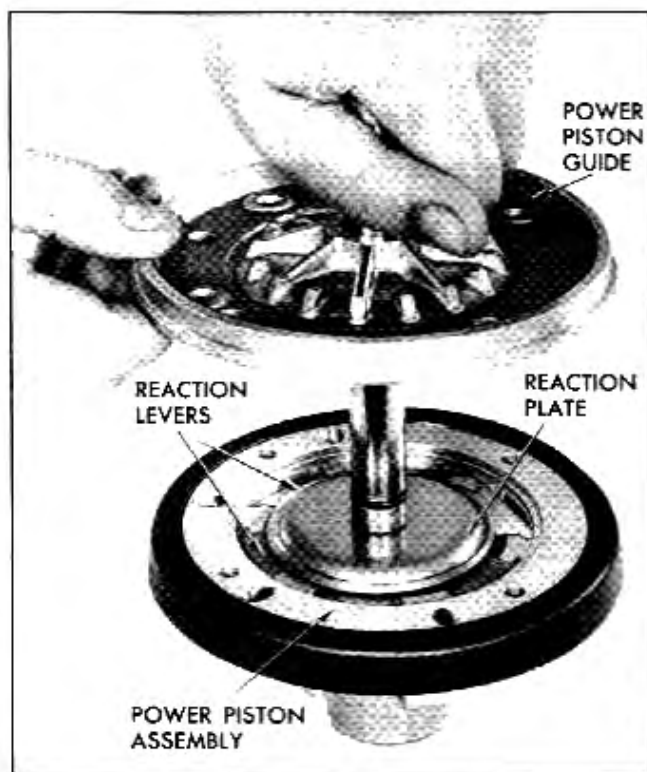

Fig. 5-68 Replacing Piston Guide to Power Piston Assembly
1. Holding master cylinder plunger assembly in one hand in vertical position with reaction plate down, start piston guide (ribbed side up) over upper end of plunger. Gently seat master cylinder plunger and reaction plate assembly onto reaction levers. Press down quickly and firmly until the six reaction levers are held in flat position. Be sure each lever is properly seated. Place hand on top of master cylinder plunger to hold in place (Fig. 5-68). Gently slide piston guide into place indexing holes to match those in piston